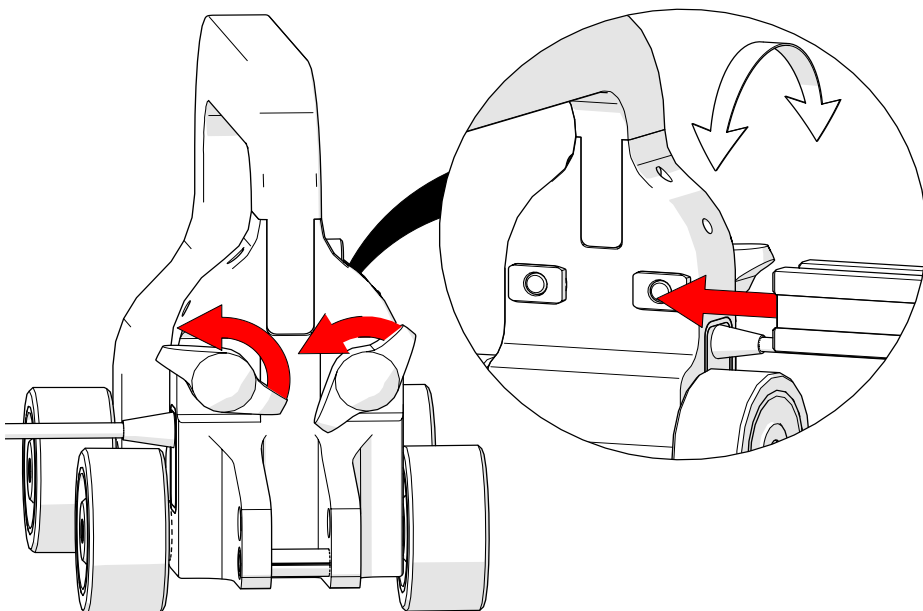

Fig. 19 - Loosen wing knobs and attach a frame bar
1. Loosen the black wing knobs counterclockwise (*Fig. 19*).
2. Align the dovetail groove of the frame bar with the dovetail nuts of the link. Slide the frame bar onto the link (*Fig. 19*).